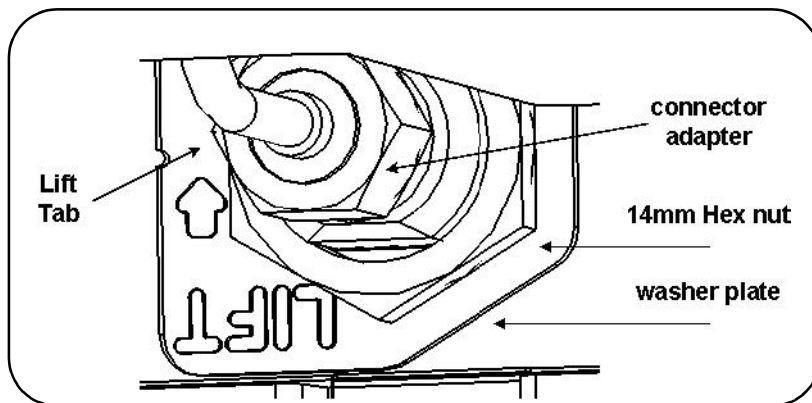

Figure 13. Connector-Adapter Installation.
11. On the back side of the connector-adapter, place the washer plate and the 14mm hex nut over the SMA connector and secure. See Figure 13.